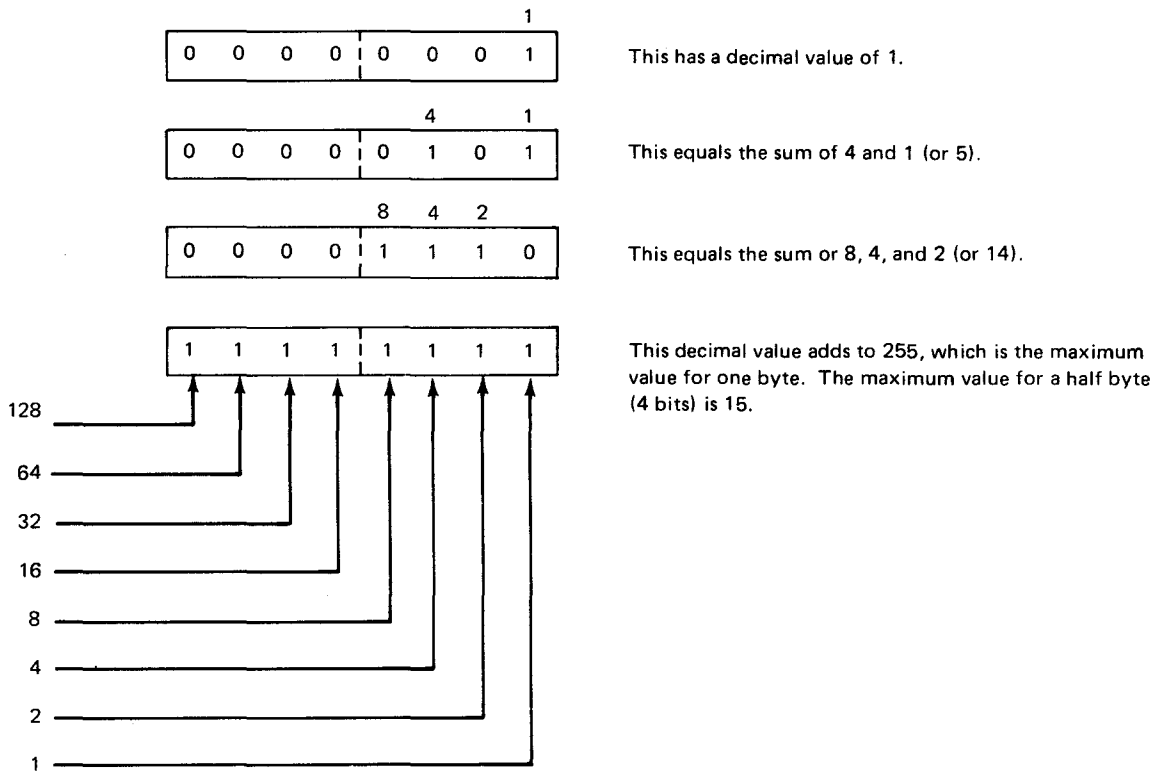

Figure 2-1. Determining Binary Values
In binary (base 2), the rightmost digit has the decimal value of 1; the digit to its left has a decimal value of 2, the next is 4, then 8, and so on to the most significant bit, which in one byte, has the decimal value of 128. You determine the total value of a binary number by adding the decimal value of each "on" bit (1), as illustrated in Figure 2-1.